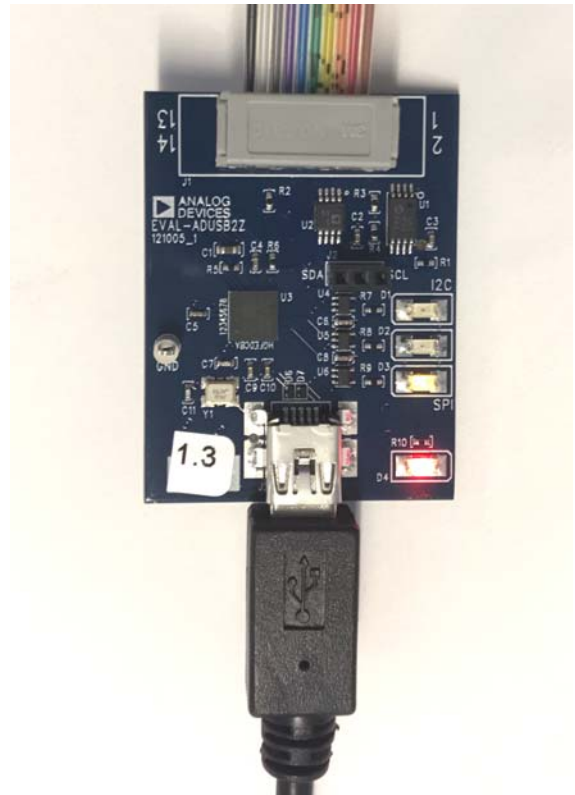

Figure 7. **USBi** Status LEDs After Driver Installation
- With the **USBi** still connected to the computer, check that both the yellow I²C LED and the red power indicator (D4) LED are illuminated (see Figure 7).